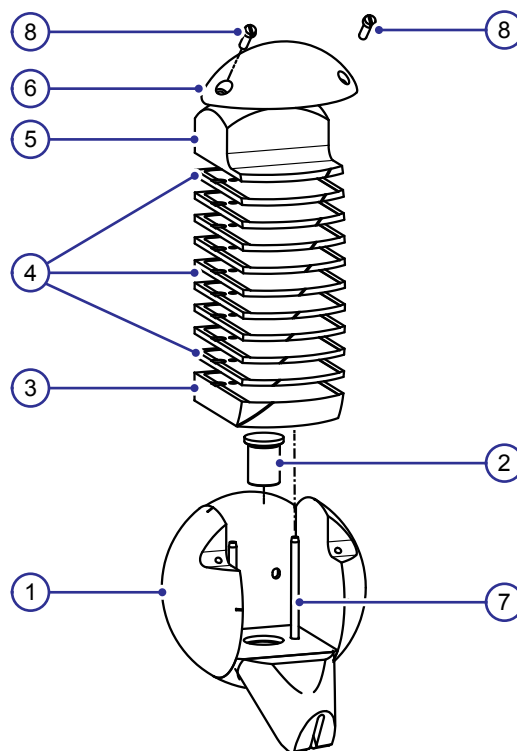
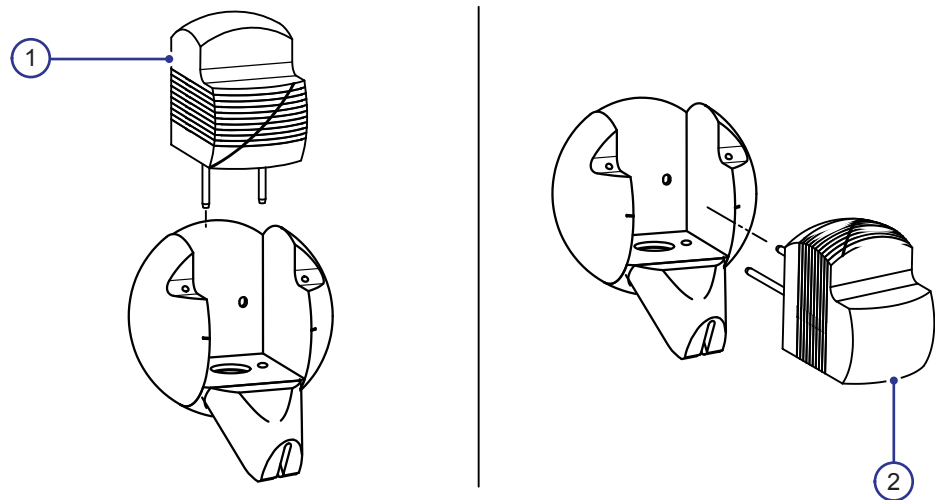

Figure 1.9 Exploded view of the Dosimetry phantom with vertical film stack
Figure 1.11 Film stack installed vertically (1), and horizontally (2)
- 1 Put the ion chamber plug (2) into the hole at the bottom of the phantom base (1), see Figure 1.9. Push the ion chamber plug as far in as possible.
- 3 Assemble the upper film holder (5), the thin film holders (4), and the bottom film holder (3) so that the engravings on each component together create a diagonal line across the arched surface of the film holder stack, see Figure 1.9.
- 4 Insert the two film holder align rods (7) into the holes of the film stack. Push the rods as far as possible into the holes.
- 5 Put the film holder stack into the phantom base vertically (for measuring in the X-Y plane) or horizontally (for measuring in the X-Z plane), see Figure 1.11
- 6 Attach the front clamp (6) on the phantom base and tighten the screws (8), see Figure 1.9. Tighten the screws alternately.